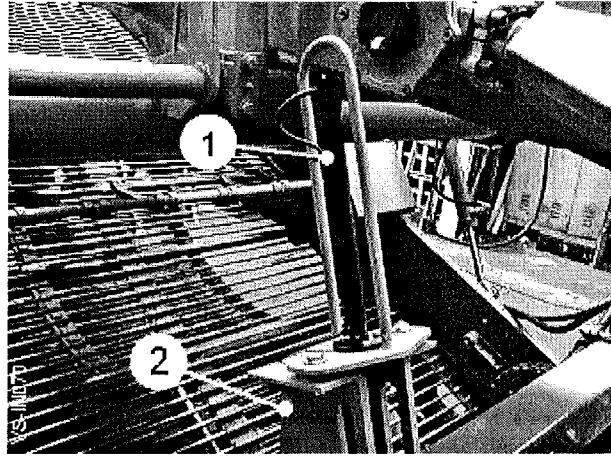

Fig 5
A depth control unit (item 1, fig 5) is fitted to each diablo roller. The depth control unit allows each roller to sense the height of the ridge it is running on and in doing so, maintains the constant depth of the share below the top of the ridge. The depth control sensor detects the position of the top link of the depth turnbuckle. Initial digging depth should be set with the harvester standing on a firm level surface. Place a 250mm block under each diablo roller and lower the digger shares to the ground. Then set the turnbuckles so that the top pins are 30mm from the top of the slots in the reaction brackets (item 2, fig 5).